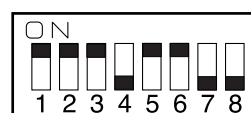

Figure 5-199
- 2) Set the DIP switch (SW1) on the ADF controller PCB as shown in Figure 5-199.